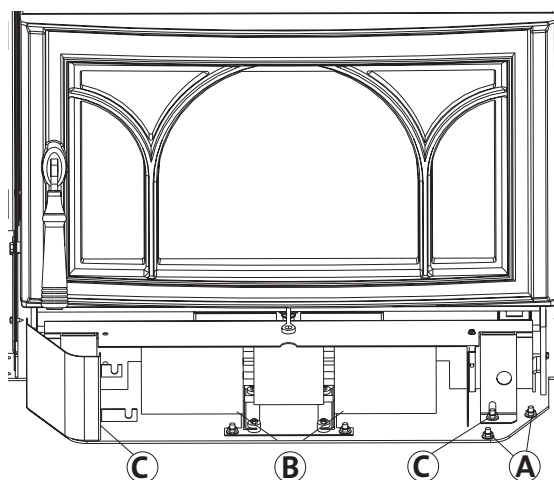

Figure 14. Blower removal.
3. Remove the Ash Lip Support from the side where the power receptacle and switch will be installed. Use the 10mm socket with 6" extension to loosen the two nuts (A, Fig. 14) that secure the panel to the Base Plate.
4. Loosen the two hex nuts (B, Fig. 14) and pull the blower out of the firebox.
5. Remove the Blower Shroud with removal of two hex nuts (C, Fig. 14) from the shroud legs.